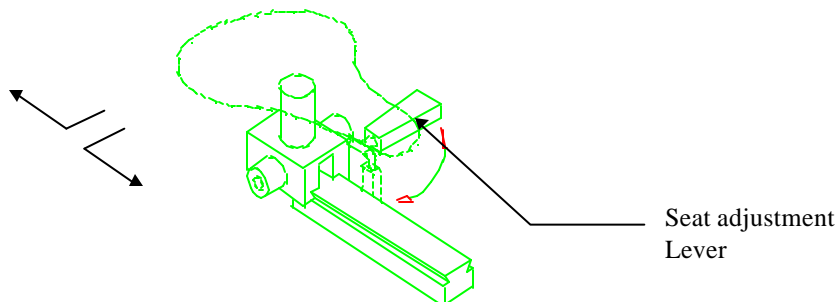

Figure 8
3. Pull the lever that is located directly under the seat, out so that the lever is horizontal with the floor (Figure 8).